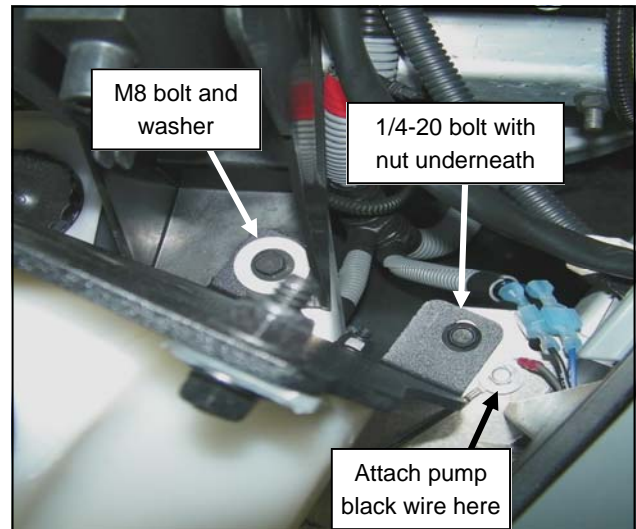

Fig. 1.3
- 1.3 Attach the reservoir bracket to the frame via the M8 bolt, with the washer above the bracket, and the provided 1/4-20 x 3/4" bolt and nut, as shown. See figure 1.3.
- 1.4 Remove the screw from the ground lug on the Carryall frame next to the washer bracket, and install the black wire from the washer pump onto the ground lug. See figure 1.3.